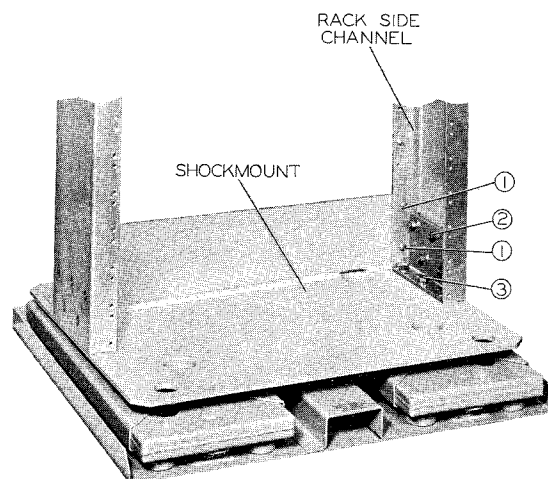

Figure 2-2. Base Shockmount Installation
(6) Loosen two screws that fasten left side to the rack (do not remove these two screws). Remove two screws that fasten right side of the HD-347/U to the rack and slide unit out of the rack.
(7) Refer to figure 2-2. Remove 3/8-16 volts (item 1) that fasten rack side channels to the base angle bracket. Holding the rack upright, remove the six 3/8-16 bolts (item 3) that fasten the side angle bracket to the base. Lift rack from base and set rack on the shockmount. Fasten rack channels to the stabilizers using eight 12-24 screws and lock washers.
(8) Fasten side channels to the base angle bracket using the four 3/8-16 bolts (item 1) and washers removed in step (7). It may be necessary to loosen the screws (item 2) that fasten the side channel angle bracket to the side channels.
(9) Fasten the side channel angle brackets to the base using the six 3/8-16 bolts (item 3) and washers removed in step (7).